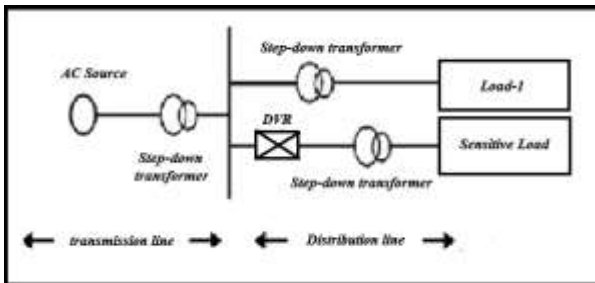

Fig.3 Location of DVR
1) *Location of DVR:* The supplement of a DVR at the low voltage 4-wire 440 V level is shown in Fig.3. The increase in impedance by insertion of a small rated DVR can be significant for the load to be protected from voltage dips. Thereby, the per cent change in the impedance ( $Z_{increase, \%}$ ) in can be increased by several hundred percent.